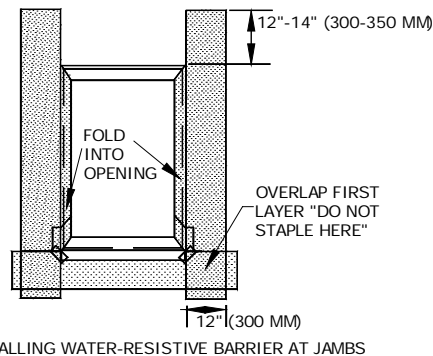

Fig 11.6
- Fit flashing into rough opening jambs. Install jamb flashing making sure bottom leg overlaps sill flashing. (Fig. 11.6).